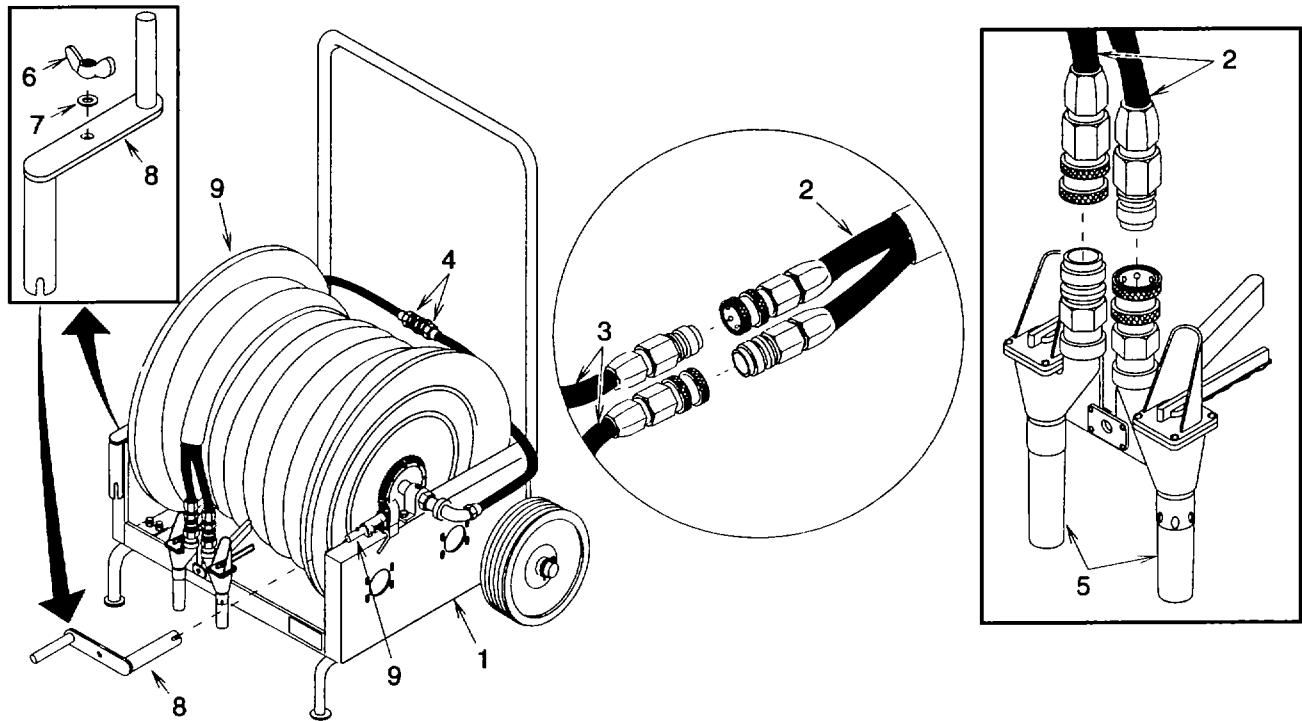

Figure 2-19. Return Auxiliary Hose Reel Cart to Ready Condition
- (9) If auxiliary mobile hose reel cart (1) (fig. 2-19) was used, disconnect the hose assembly (2) from the hose assemblies (3) Connect the hose assembly coupling halves (4) to each other.
- (10) Connect the fire hose nozzles (5) to the hose assembly (2).
- (14) Secure crank (8) (fig. 2-19) to auxiliary mobile hose reel cart or trailer mounted extinguisher assembly with wing nut (6) and flat washer (7).
- (15) Notify unit maintenance for unit recharge.
- (16) Refill dry chemical tank.